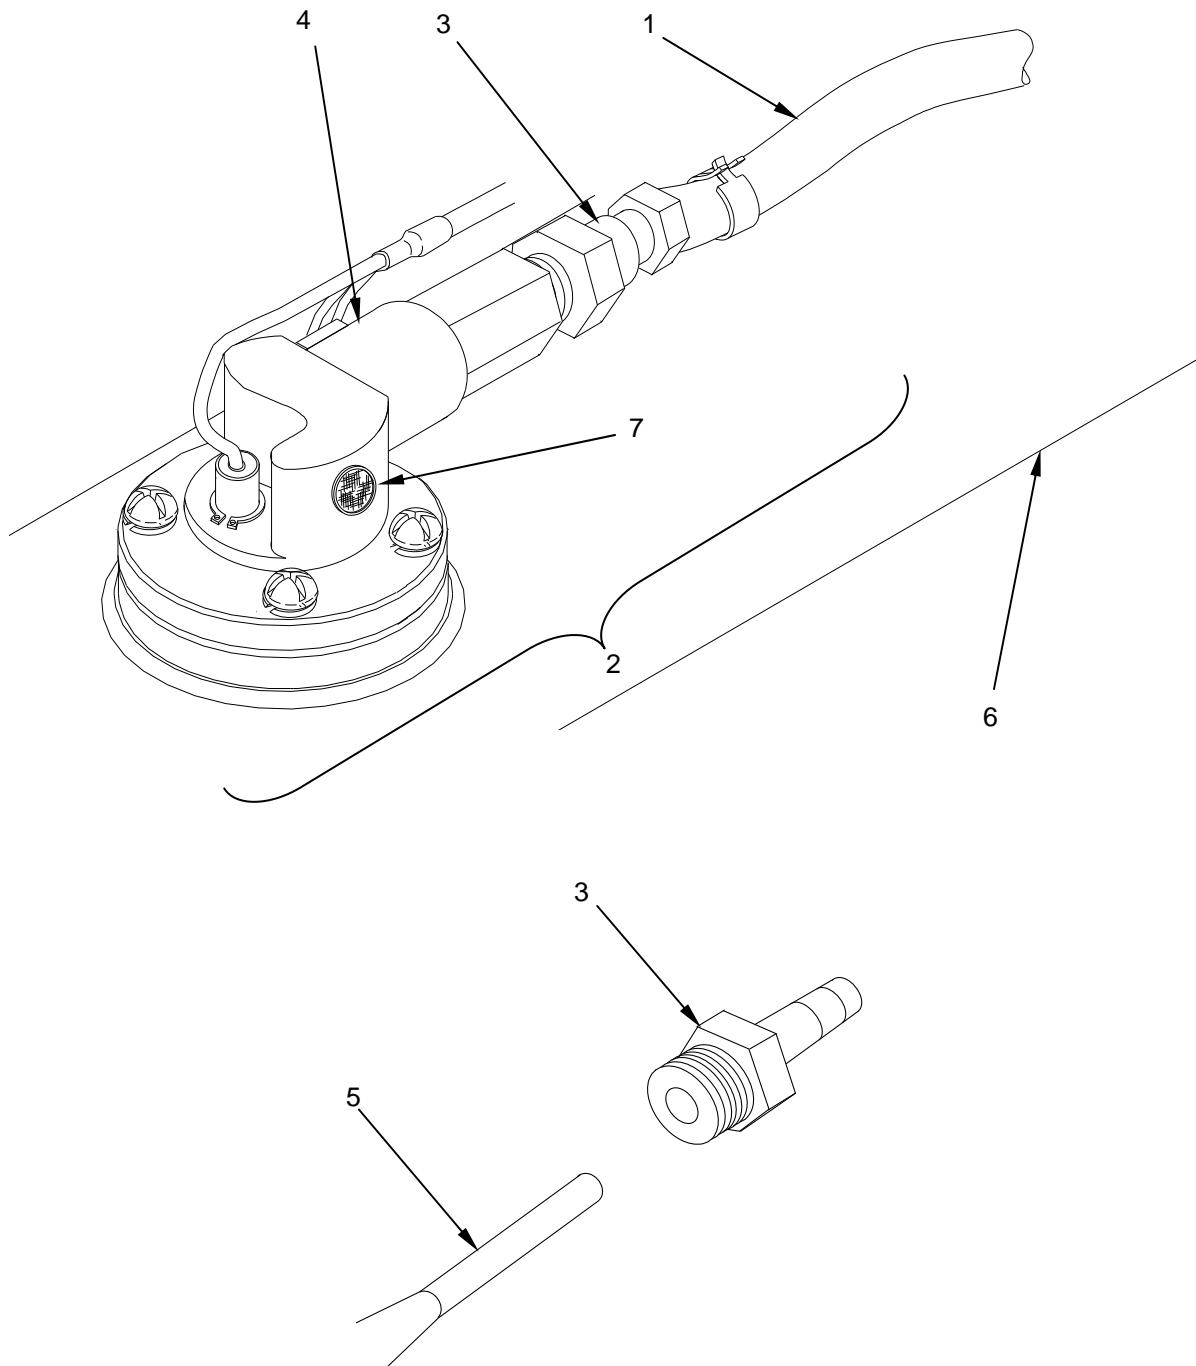

Figure 3. Service the Check Valve.
1. Remove the check valve (Figure 3, Item 3) from the air line (Figure 3, Item 1).
2. Locate the plunger on the inside of the check valve (Figure 3, Item 3). Use a pin punch (Figure 3, Item 5) to gently push the plunger in from the threaded side of the check valve. If it is stuck, it should take slight pressure to get it to move in freely. The plunger is spring loaded and should return to the closed position automatically.
4. Install the check valve (Figure 3, Item 3) by holding the solenoid (Figure 3, Item 4) with a suitable wrench and turn the check valve with another suitable wrench. Be careful not to turn the fitting on the solenoid valve.
5. Connect the air line (Figure 3, Item 1) to the barb fitting on the vent valve assembly (Figure 3, Item 2).
1. Locate the Vent Valve Assembly (Figure 3, Item 2) on the top surface of the fuel tank (Figure 3, Item 6). The Air Vent Orifice (Figure 3, Item 7) is the 3/8-inch diameter hole located on the side of the assembly facing the rear of the MBU.
2. Ensure that the orifice (Figure 3, Item 7) is clear of any dust or debris, as this would prevent venting of the fuel tank and affect fuel flow. Use a small cleaning brush to clean the debris out of the orifice. DO NOT use any tool or object that would push any debris further into the orifice.